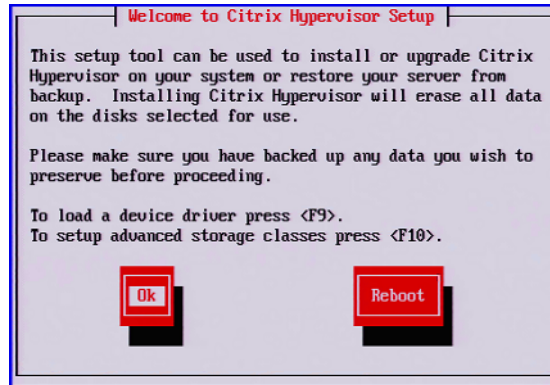

Figure 10-3. Loading the Device Driver
4. Insert the DUD CD/ISO. The GUI Welcome screen appears (see Figure 10-3).